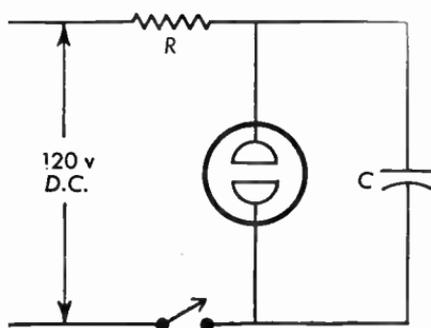

Fig. 13.04 Saw-tooth oscillator using a neon bulb discharge path.
13.04 A neon relaxation oscillator of the type shown in Figure 13.04 operates at an ignition voltage of 85 volts and an extinction voltage